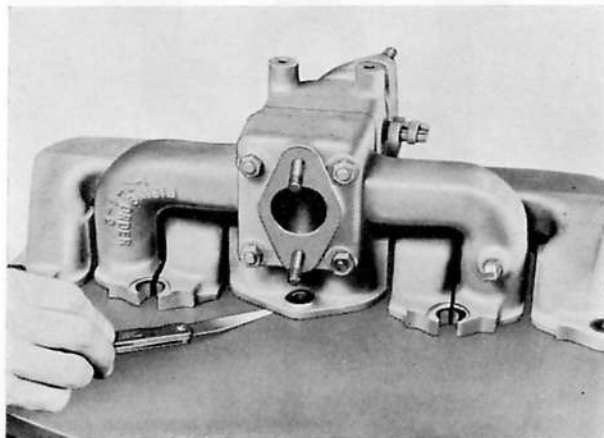

Fig. B.19. Checking the intake manifold flanges for correct relationship with those of the exhaust manifold
1. Temporarily assemble the manifolds together and, with the exhaust flanges in contact with the surface plate, check the clearance between the intake manifold attachment faces and the surface plate (Fig. B.19). If the clearance is in excess of the specified limit, check for bent intake-to-exhaust manifold studs. If the studs are satisfactory, the stud holes in the intake manifold may be opened out slightly to allow repositioning of the manifold.